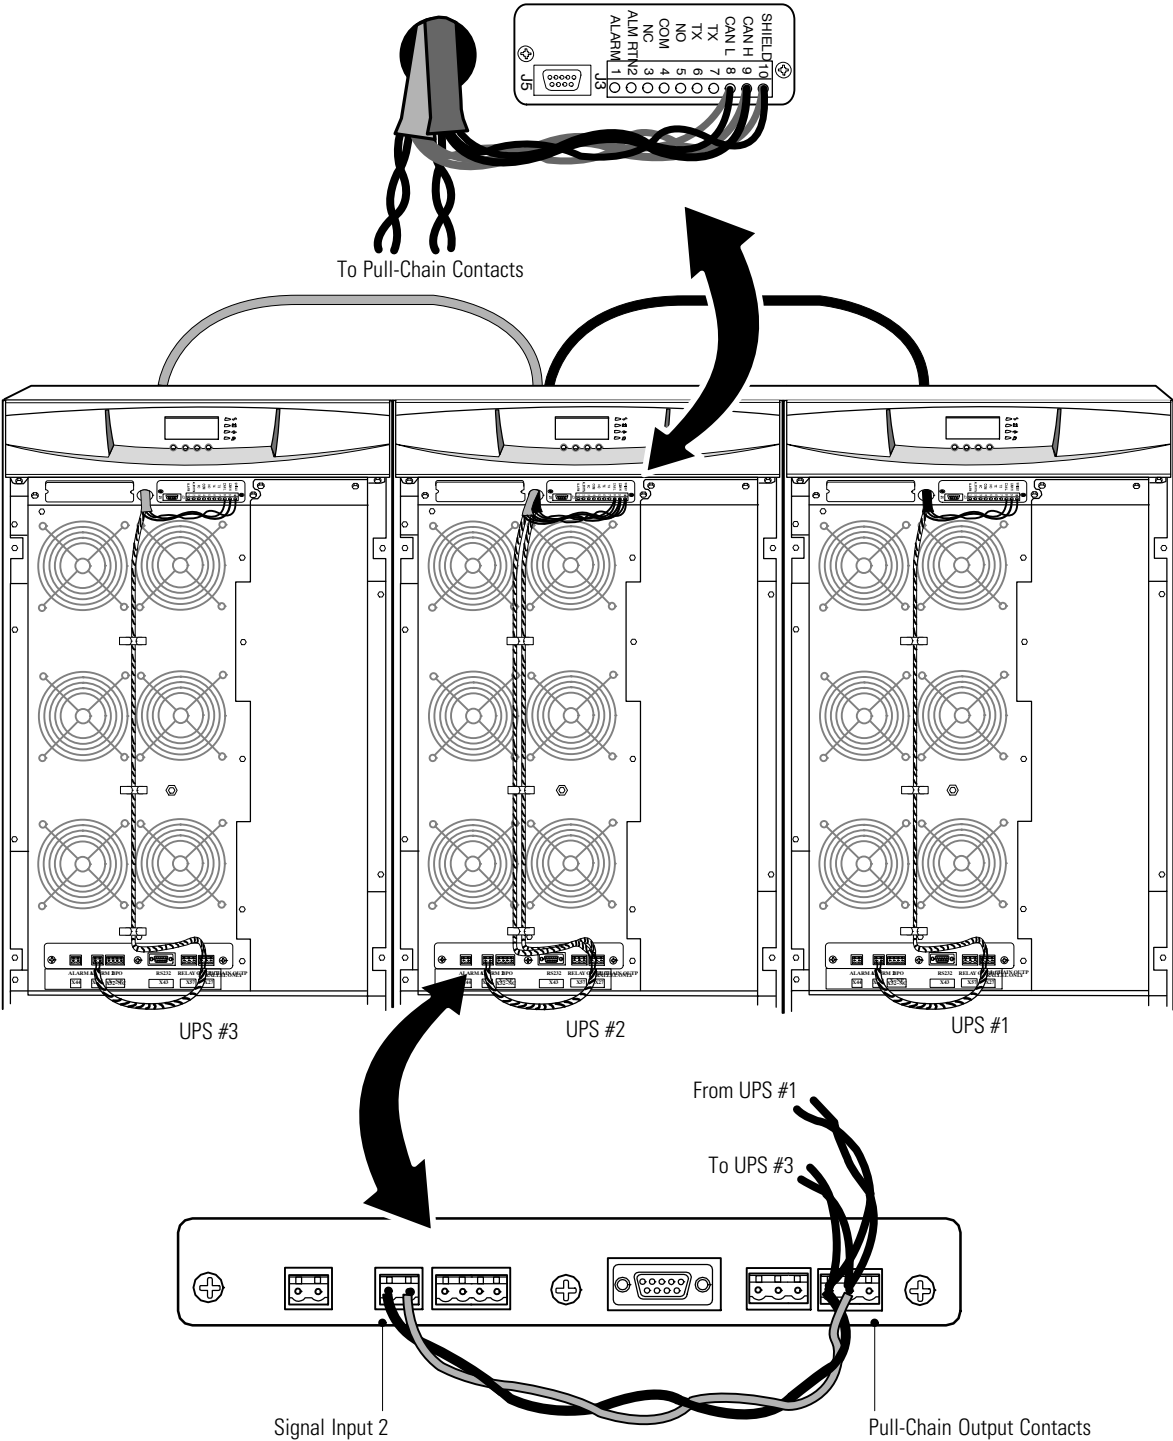

Figure 52. CAN Bridge Card and Pull-Chain Wiring
9. Install the CAN Bridge Card wiring between each UPS (see Figure 52 on page 72).
- 11.** Wire the pull-chain wiring to Signal Input 2 on each UPS and daisy chain the wiring to each UPS as shown in Figure 52. Be sure to check correct polarity: